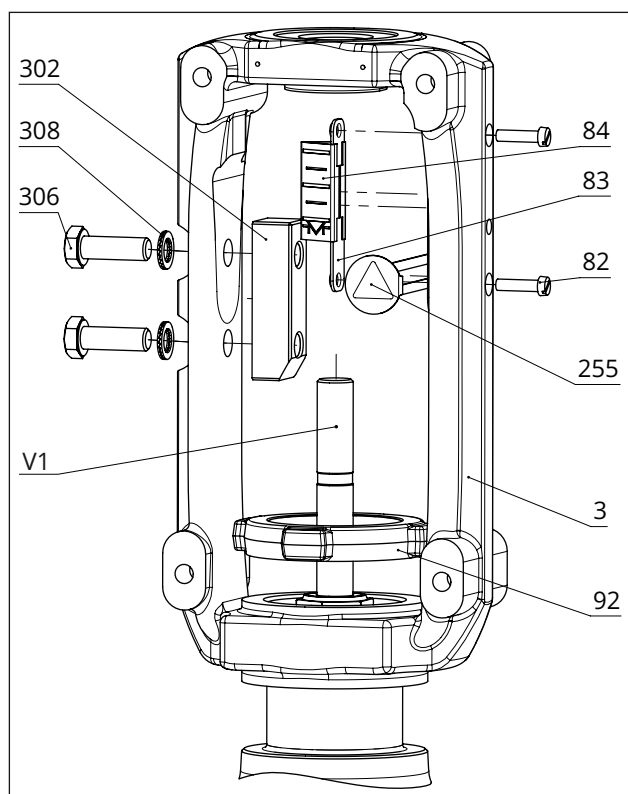
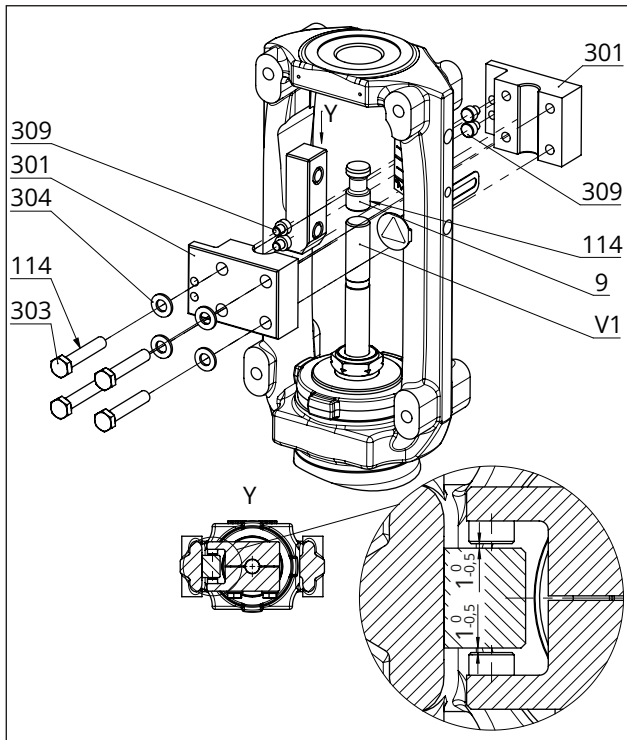

Fig. 14: Overview of yoke assembly with travel indicator scale in the special version
Fig. 15: Overview of anti-rotation fixture assembly in the special version
See Fig. 14 and Fig. 15
- There is a nominal clearance of 0.5 to 1 mm between the sliding washers and their contact surface on the yoke on each side (see detailed view Y in Fig. 15).